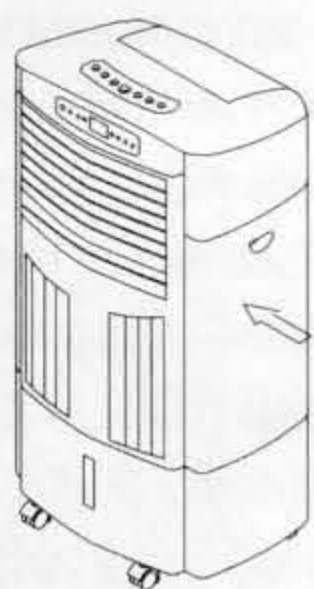
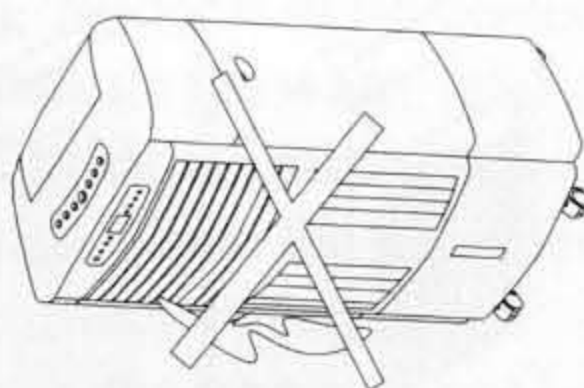

Fig. 11
Fig. 12
2. After filled with water, the Evaporative Air-conditioner should not be tilted or collided during its placement and movement when it is needed to move it, push the Evaporative Air-conditioner on its side surface slowly so as to avoid water in the Fan to spill out. It must be avoided to overturn the Evaporative Air-conditioner in service; otherwise, accident would occur. (Fig. 11, Fig. 12).